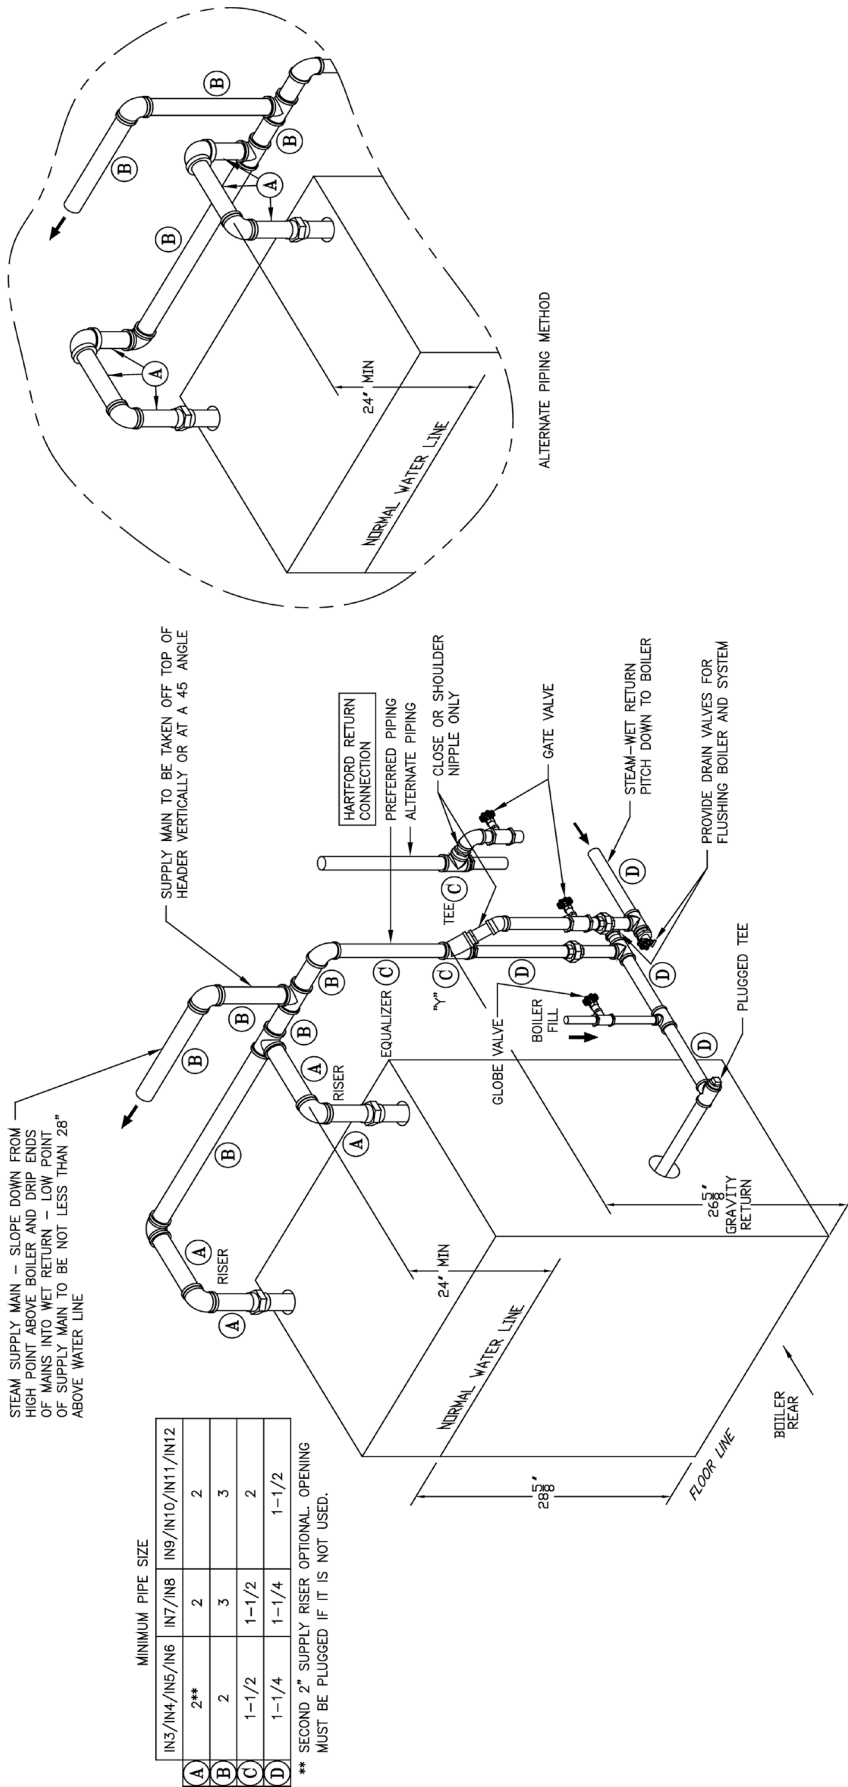

Figure 22: Steam Boiler Piping (Minimum)
1. For STEAM HEATING see Figure 22. Consult I=B=R, "Residential Hydronic Heating Installation and Design Guide".